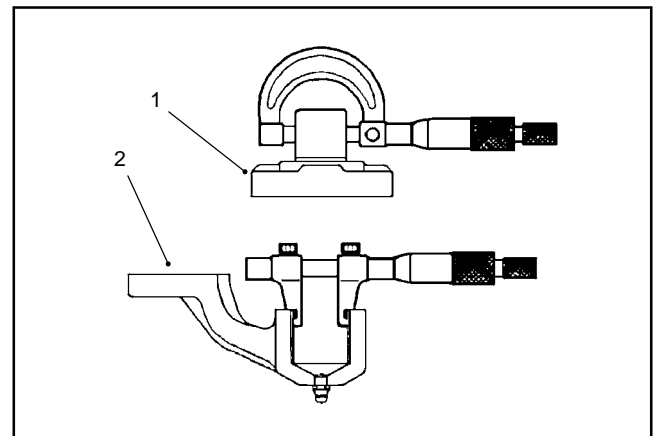

Figure 21
1. Measure the knuckle pin O.D. and the axle case support bushing I.D. to determine the bushing to pin clearance (Fig. 21). Replace components as necessary.